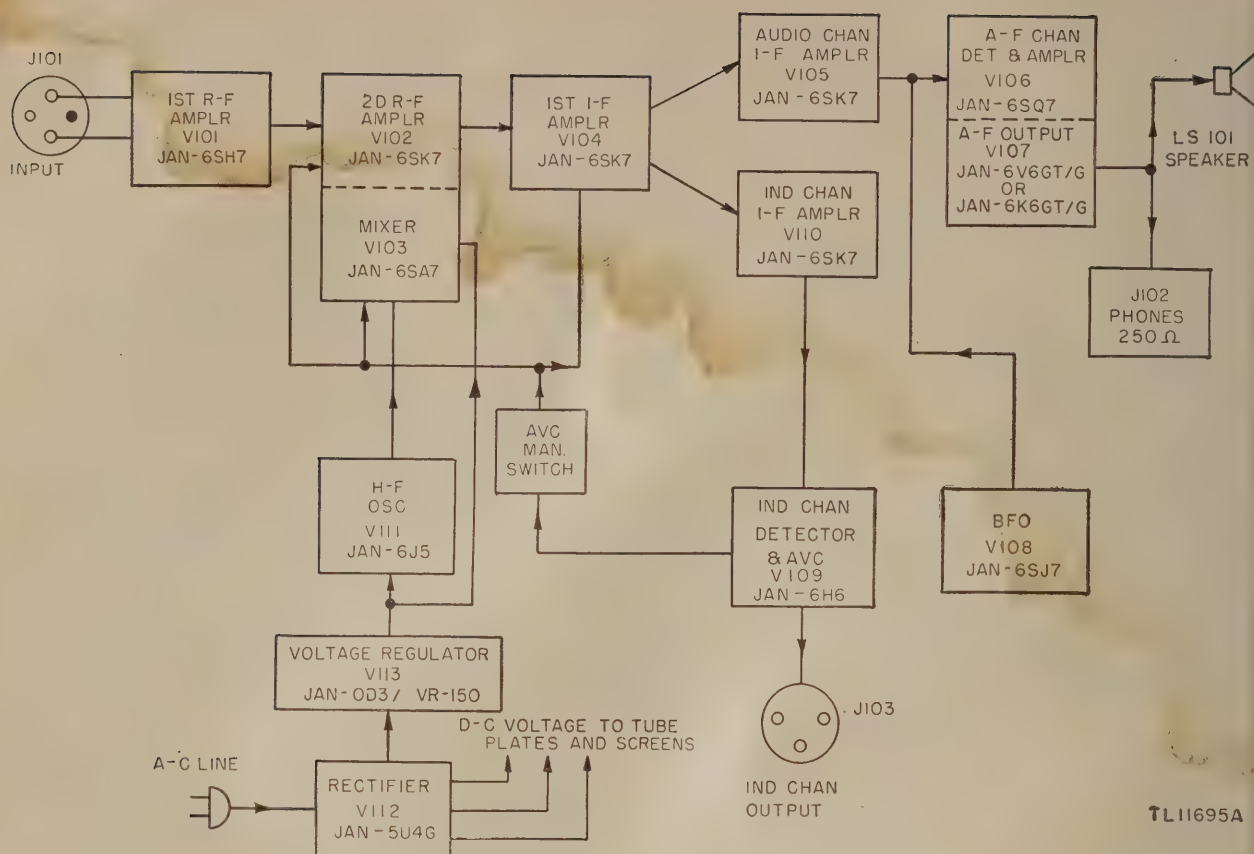

Figure 146. Radio Receiver BC-1147-A, block diagram.
#### 152. Radio Receiver BC-1147-A (fig. 146)
a. BLOCK DIAGRAM (fig. 146). The output of Goniometer MC-412-A is applied through connector J101 to the primary winding of the input transformer to the first r-f stage in the superheterodyne receiver. A second r-f stage is used to improve the signal-to-noise and image frequency ratios. The output of the second r-f stage is fed to the mixer stage in which it is combined with the output of the h-f (high-frequency) oscillator stage. The combined signals produce the i.f. in the output of the non-linear mixer stage. The i.f. is amplified in the first i-f amplifier and applied simultaneously to the input circuits of separate audio and bearing indicator channels. From the i-f stage in the audio channel the signal is passed through a diode detector, first audio stage, output stage, and then to the loudspeaker. The audio output may be fed to a headset plugged into the